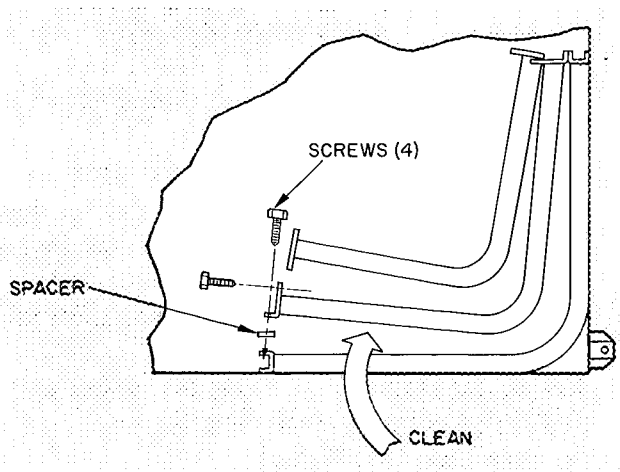

Fig. 9 – Outdoor Coil Cleaning
3. Remove screws that fasten the 3 sections of the tube sheet together at the return bend end of the condenser coil. Carefully spread the ends of the coils apart (see Fig. 9).